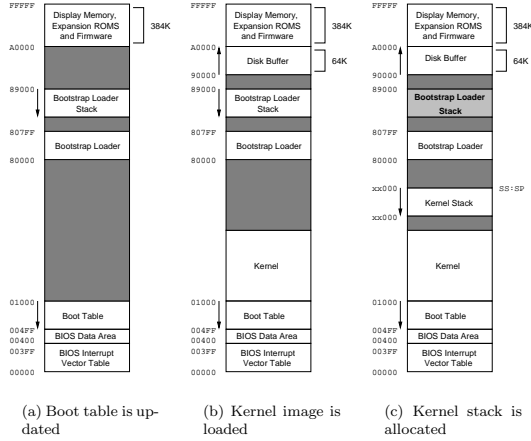

Figure 2: Memory layout during the secondary stage of the bootstrap loader.
is exactly 4 bytes long and the boot table grows down toward address 0 as illustrated in Figure 2(a). Determining the amount of memory installed is somewhat problematic and a more detailed explanation can be found in Section 5.
**Lines 454..461** The kernel or runtime environment is loaded into memory at physical address 01000h as illustrated in Figure 2(b). The `LOAD_IMAGE` procedure (lines 709 to 829) is responsible for loading the kernel image into memory.